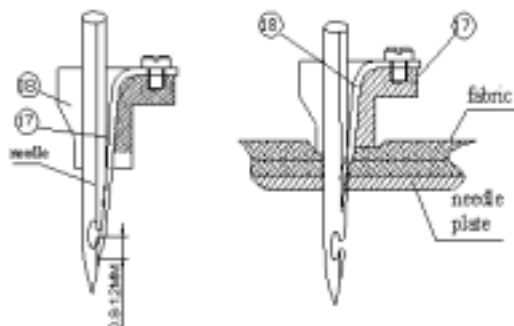

FIG. 7
Take the fabric clip (17) off the internal bar and the needle off the needle bar. Choose the appropriate gauge of the needle and the corresponding fabric clip. For assembly use a new tongue (18) and insert it in the fabric clip. Then install a new needle of matching gauge into the needle guide. FIG. 7.
The tongue should be placed in the longest groove of the needle and then fixed with the clamping screw (19) in such a way that the tip exerts a slight pressure on the needle. FIG.7 After tightening the clamping screw of the tongue, checks that the fabric clip is positioned straight and runs smoothly along the needle.